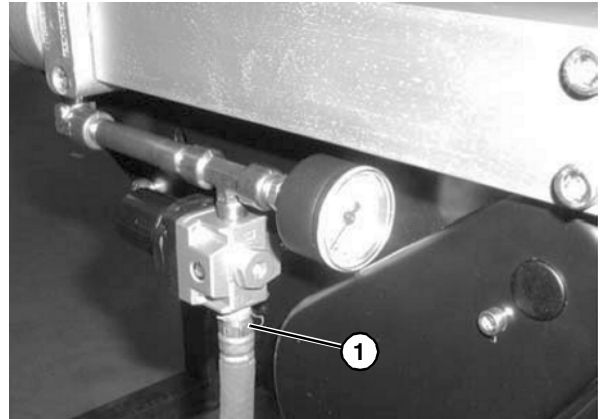

Figure 49
6. Reattach air supply (Figure 49, item 1) to center drive. Refer to “Conveyor Belt Tensioning” on page 17” for more information.